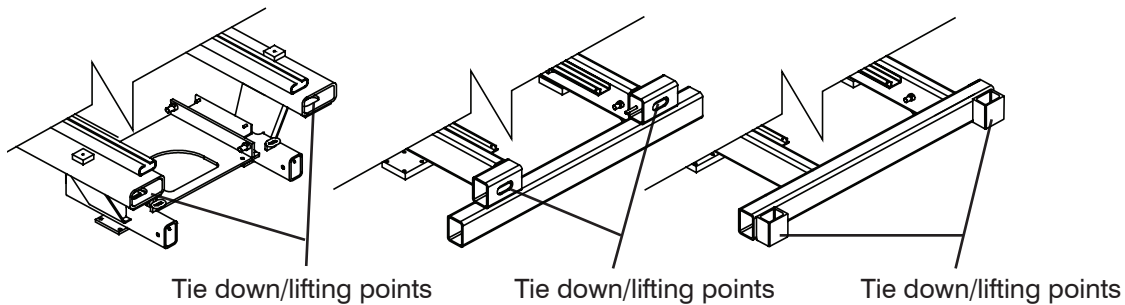

Figure 3-10. Tie Downs/Lifting Points
- The lifting/rigging must be attached to all four lifting points as illustrated in Figure 3-10.
**When transporting, the aerial platform must be secured to the truck or trailer deck. Tie downs are available as illustrated in Figure 3-10.**